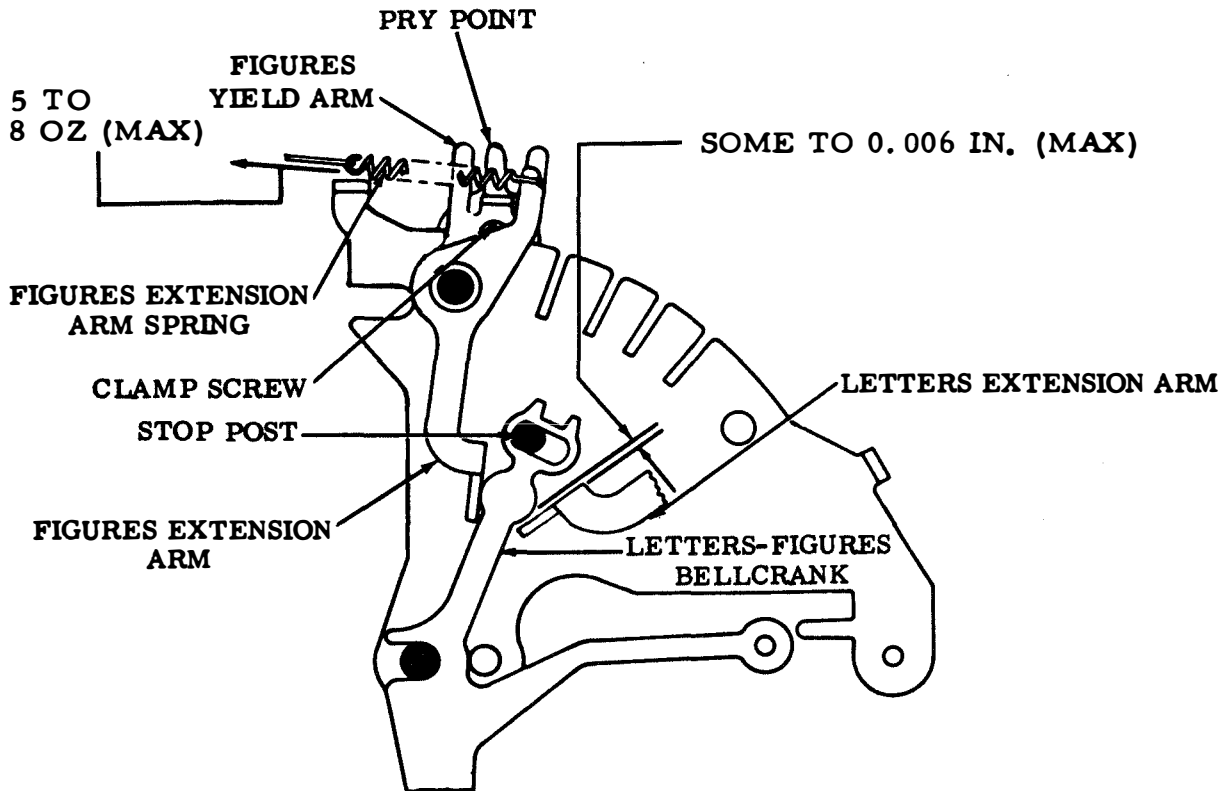

Figure 6-74. FIGURES Extension Arm Spring and FIGURES Yeild Arm
(a) Refer to figure 6-74.
(a) Refer to figures 6-74 and 6-76.
(c) For FIGURES yield arm assemblies in LETTERS position. Hold LETTERS-FIGURES bellcrank against left edge of stop post and measure clearance between bellcrank and LETTERS extension arm. (See figure 6-74.)
2. For FIGURES yield arm, place arm assemblies in LETTERS position and hold LETTERS-FIGURES bellcrank against left side of stop post. Using pry point, position LETTERS yield arm to specified clearance. Tighten FIGURES yield arm clamp screw (see figure 6-74).